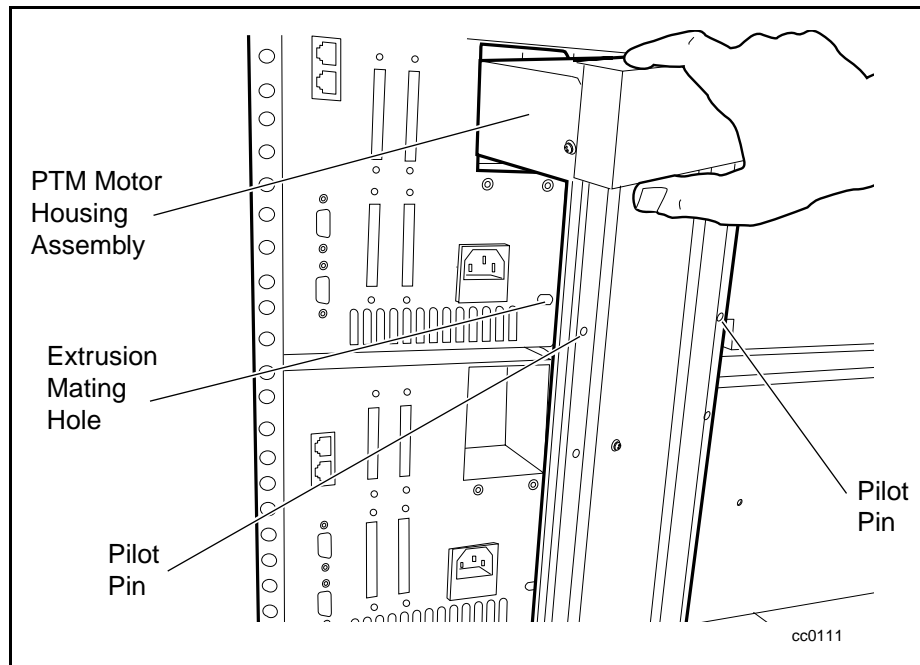

Figure 5-43. Installing the PTM
1. Holding the PTM upright, position it against the rear panels so that the PTM motor housing assembly slides into the available space and the two pilot pins on the extrusion mate with the holes in the rear of the top Library unit (see Figure 5-43).